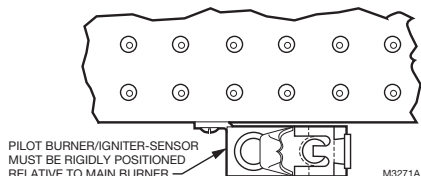

Fig. 1. Mount pilot burner/igniter-sensor on main burner.
2. Mount pilot burner/igniter-sensor on main burner. Mounting surfaces other than the main burner may shift, bend, or warp as furnace expands and contracts while operating. See Fig. 1.